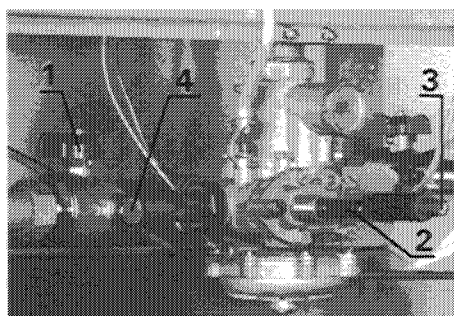

Fig. 13
- Open the gas cock on each module by turning gas cock handle in line with pipe (1, fig. 13).
- Press the gas control spindle (2, fig. 13) and hold in.
- Light the pilot by pressing piezo ignitor (3, fig. 13) and wait for approximately 20 seconds.
- Release the gas control spindle (2, fig. 13) and the pilot should remain alight.
NOTE – If the pilot will not establish, check that the gas supply to each module is purged of air by loosening the plug in the side of the gas cock (4, fig. 13). When air has been purged tighten the plug and repeat the lighting procedure. Test for gas joint soundness.